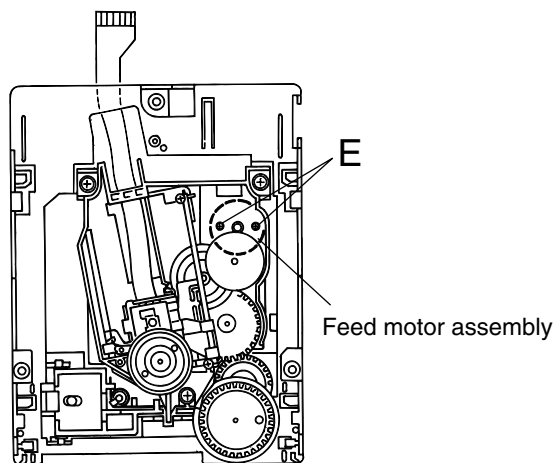

Fig. 17
■ Removing the Feed Motor Assembly (Refer to Fig. 17.)